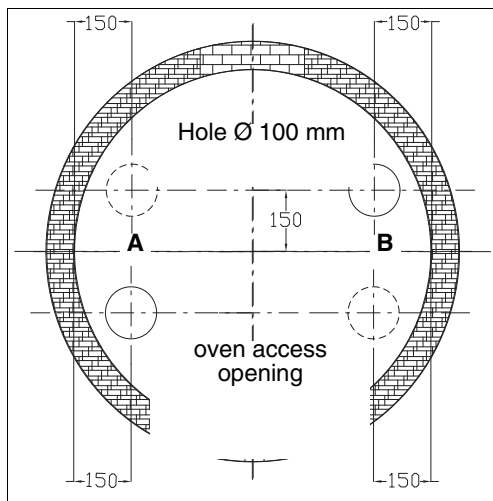

Fig. 2
- 1 Make a 100mm diameter hole in the cooking surface of the oven, as shown in Fig. 2; the position of the hole may be to the right (A in Fig. 2) or to the left (B in Fig. 2), of the oven access opening, as preferred by the user (in case also of rotating plane).